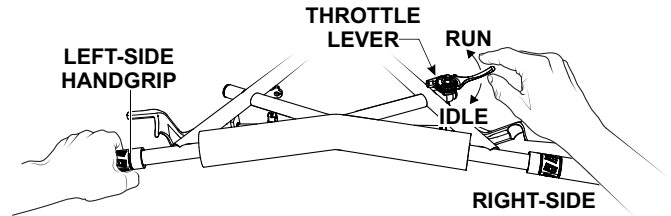

Figure 19. Throttle Lever (Run/Idle)
5. With one hand on the **left-side** handgrip, move the throttle lever (Figure 19) from **IDLE** to the **RUN** position.
2. Return the throttle lever (Figure 19) to the **IDLE** position.